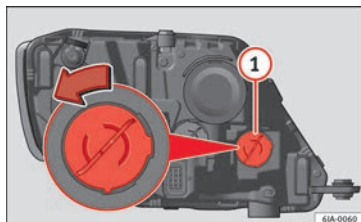

Fig. 148 Changing turn signal bulbs.
- Turn the bulb holder **»» Fig. 148 ①** anti-clockwise and remove it.